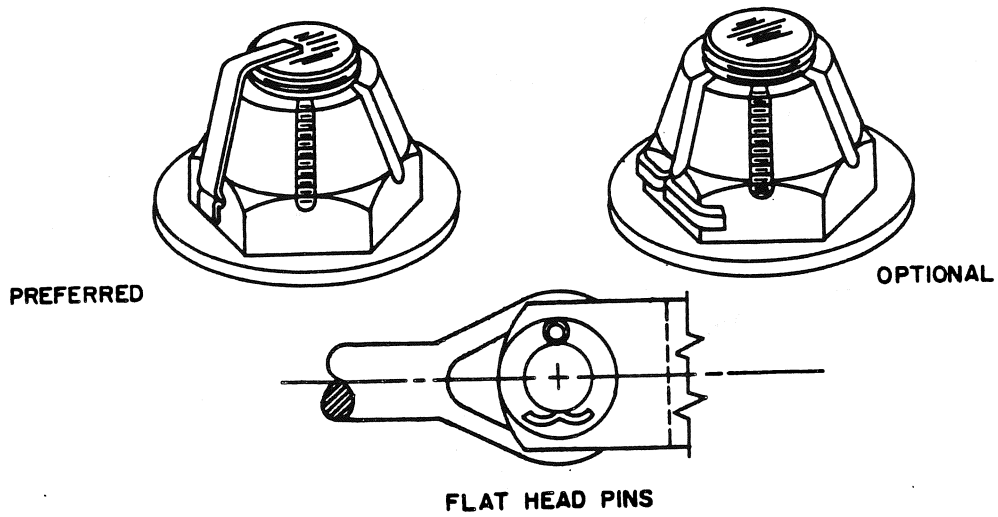

Figure 5.3. Pin Installation
There are two methods of installing cotter pins. (1) Where one end of the cotter pins goes over the top of the nut and (2) where ends go around the flats of the nut (see Figure 5.3). The first method is preferred and should be used whenever possible, except for human safety precautions, interference with clothing or equipment, and flat head pins.